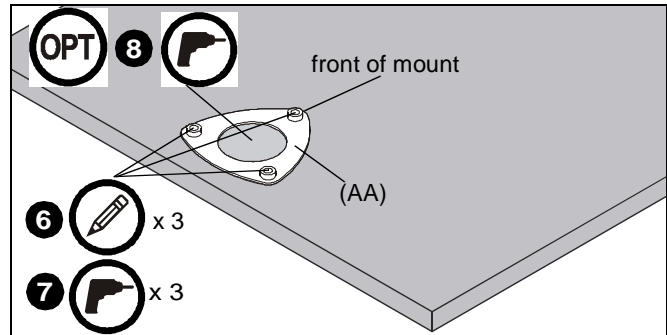

Figure 2
7. Drill three 5/16" holes at locations marked in Step 3. (See Figure 2)
8. (Optional) If cables are going to be routed through the desk, drill an additional hole in the center of the clamping plate that is large enough to account for all cables that will be routed through the desk. (See Figure 2)